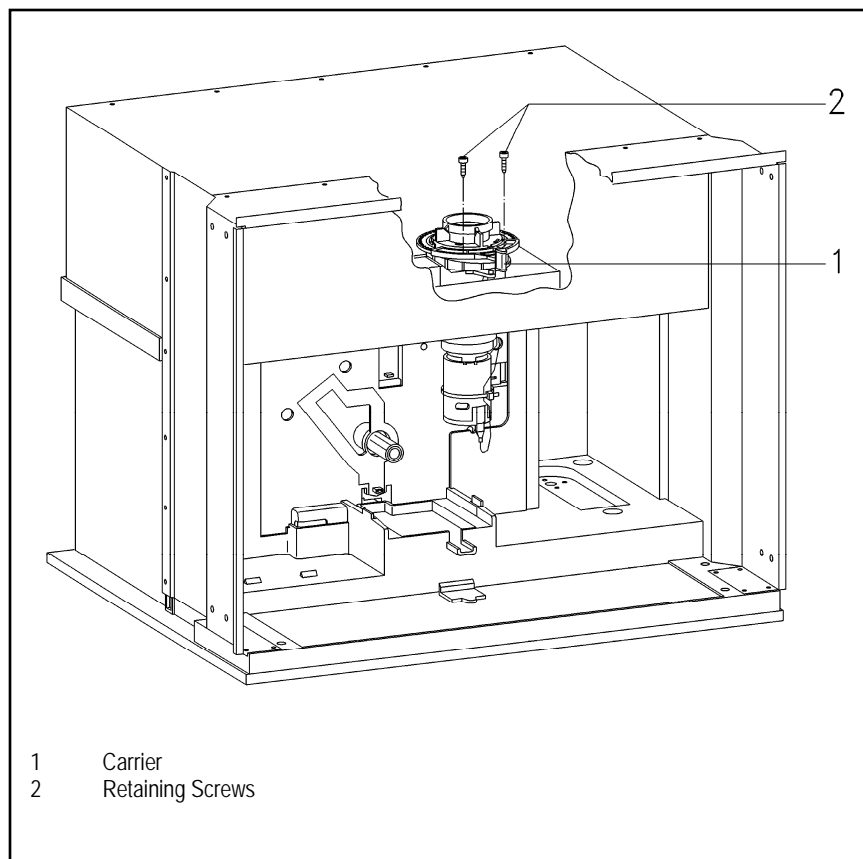

Figure 5-44: Grinder - Disassembly
7. Pull off the handle (Figure 5-44, Item 1).